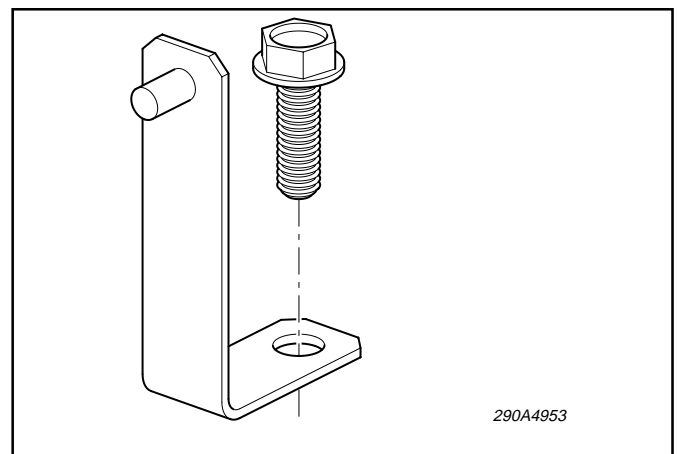
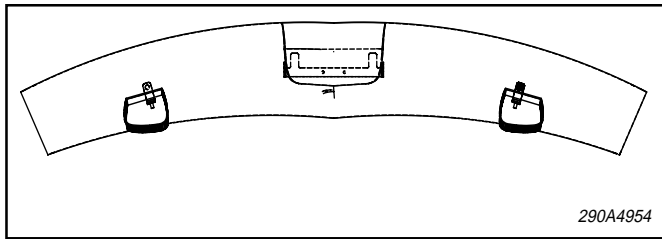

Figure 2.
Figure 3.
b. See figure 2. Install the rear deck support bracket assemblies with the bolts from the tether anchors. Orient as shown in figure 3 and finger tighten bolts.